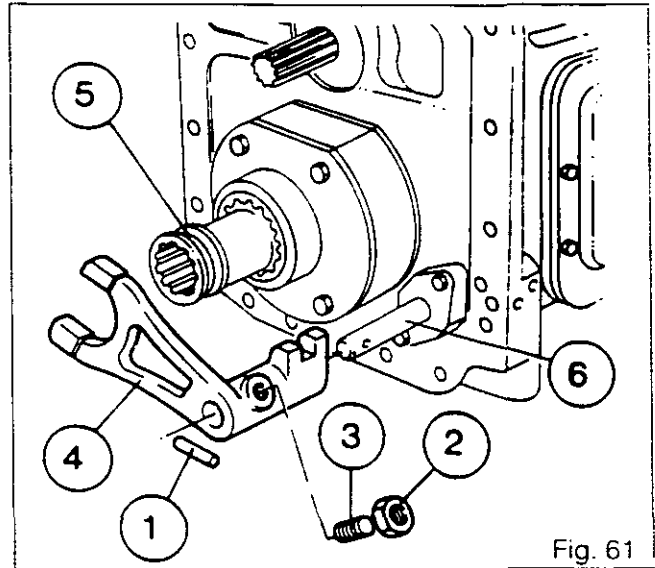

Fig. 61
**Note: Gearbox fitted with creeper gears (Fig.61).**
**Fit the sleeve (5), the fork (4) and the pin (1). Position the fork and the locking plunger (3) on the flat of the shifter rail (6) (between the two locking notches). Tighten the locking peg to compress the ball.**
**Clean the nut (2) with solvent and coat with Loctite 241.**